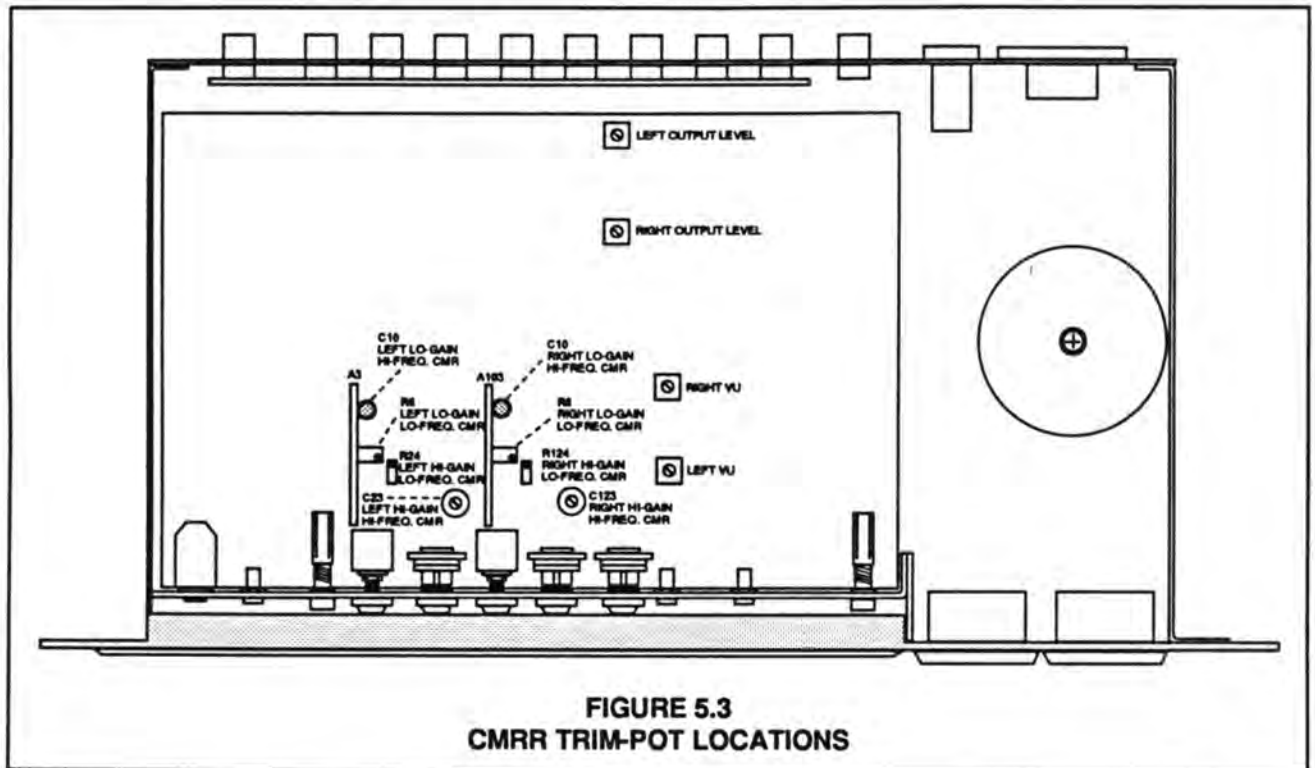

FIGURE 5.3
4. Adjust trim-pot R8 on output amplifier function module A3 (as shown in Figure 5.3) to obtain a minimum output level.
4. Adjust trim-pot R8 on output amplifier function module A103 (as shown in Figure 5.3) to obtain a minimum output level.